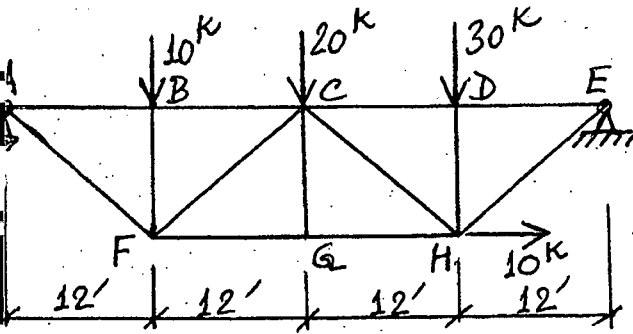

Fig. 10
11. For the truss shown in Fig. 10, determine all reactions and member forces. Use method of consistent deformation. Given: $E = 29 \times 10^3$ ksi and cross sectional area, $A = 2$ in² for all bars. (21)